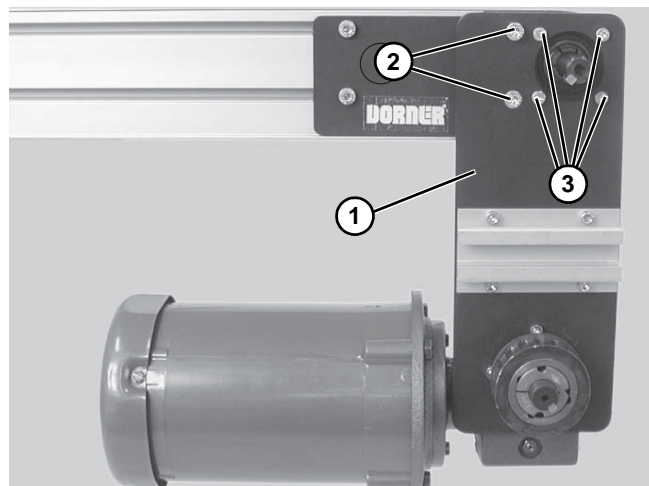

Figure 9
- Attach mount assembly (**Figure 9, item 1**) with two (2) M8 screws (**Figure 9, item 2**) and four (4) M6 screws (**Figure 9, item 3**). Tighten M6 screws to 146 in-lbs (16.5 N-m) and M8 screws to 288 in-lbs (32.5 N-m).